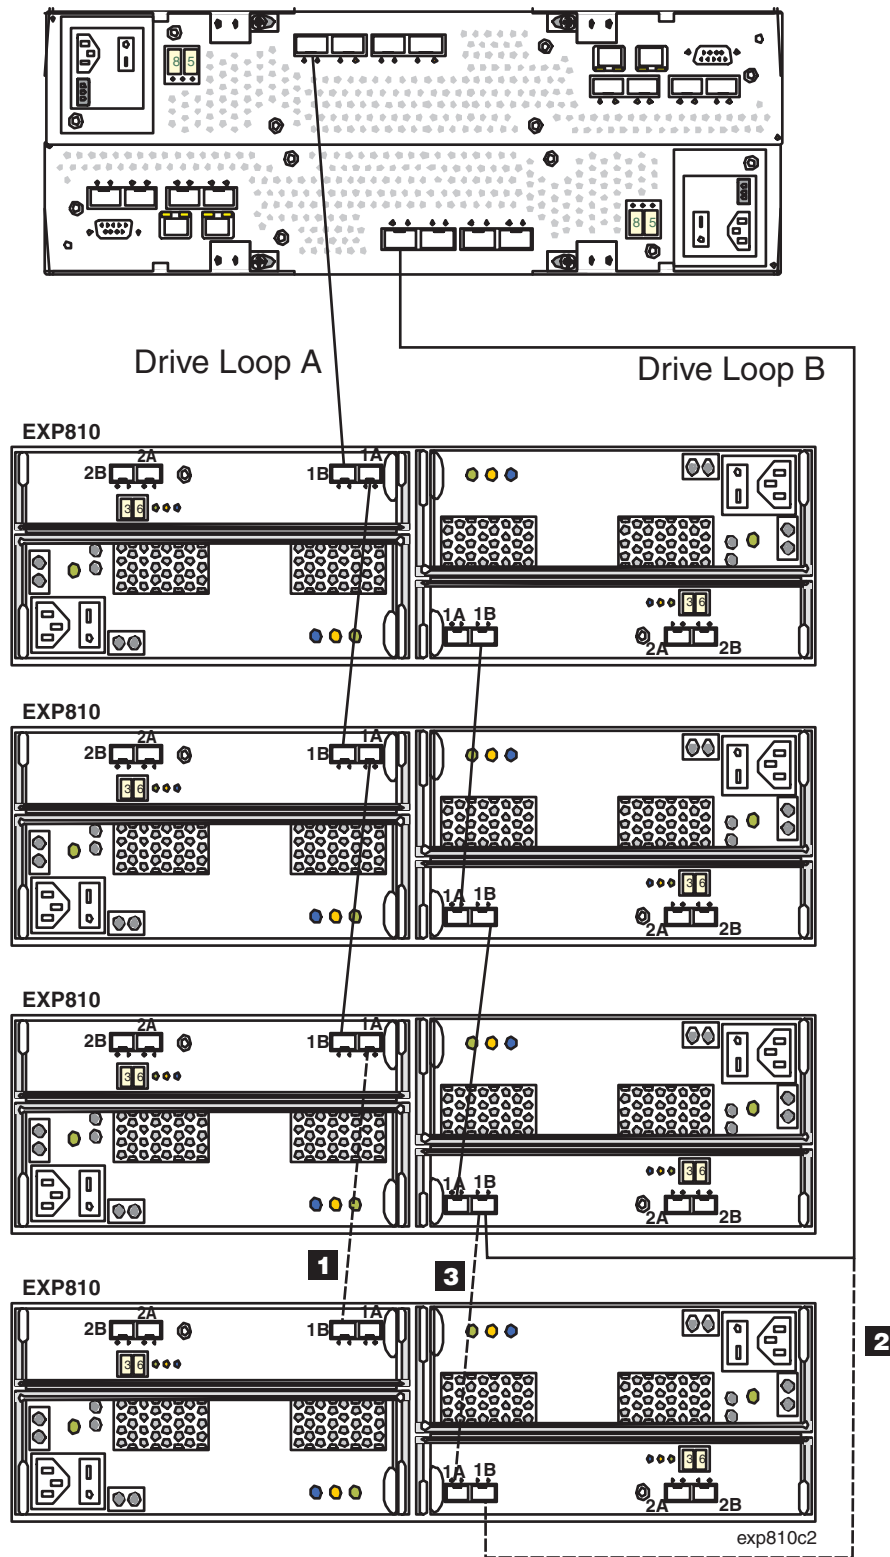

Figure 58. Cabling the EXP810 to an existing and configured drive loop
Figure 58 on page 99 shows an example of a DS4000 storage subsystem configured with redundant drive loop pairs.
The dashed lines in Figure 58 show how to add a new EXP810 to an existing DS4800 configuration with EXP810s. To add the new EXP810 shown in Figure 58, perform the following steps:
4. Make the fibre-channel connection marked **1** in Figure 58 on page 99 (drive loop A) by connecting port 1A of the existing EXP810 to port 1B of the new EXP810. Then verify that it is recognized by the Storage Manager software GUI.
5. Move the existing fibre-channel connection marked **2** in Figure 58 on page 99 from the existing EXP810 enclosure ESM port 1B to the new EXP810 enclosure ESM port 1B.
6. Make the fibre-channel connection marked **3** in Figure 58 on page 99 (drive loop B) by connecting port 1A of the new EXP810 to port 1B of the existing EXP810.